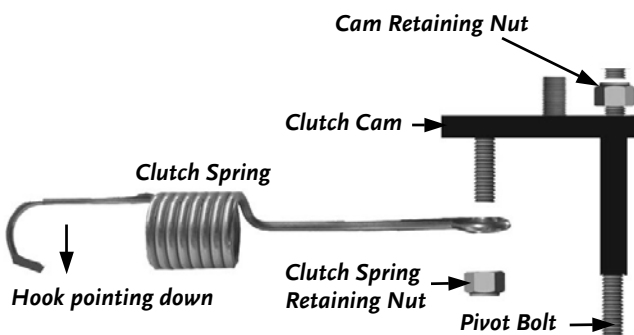

Figure 25
5. Using a 9/16" Wrench, raise the Cam Retaining Nut, lift the Clutch Cam up on the Pivot Bolt, and remove the Clutch Spring Retaining Nut using a 1/2" Wrench (**Figure 25**).
6. Remove the old Clutch Spring from beneath the Clutch Cam and install the new Clutch Spring with the Hook that attaches to the Clutch Tab facing down (**Figure 25**). Tighten the Clutch Spring Retaining Nut.